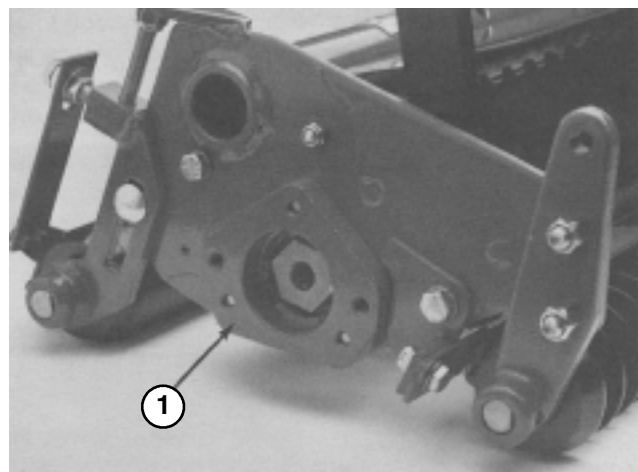

Figure 10
1. Remove the (2) capscrews, washers, and lockwashers from the end cap weight on the opposite end of the dethatcher reel from the driven end. Remove the end cap weight.
2. Remove the (2) capscrews, washers, and lockwashers from the reel motor. Remove the reel motor.
3. Remove the (3) capscrews, washers, and lockwashers from the non-driven end of the dethatcher unit. Remove the end bearing plate and carefully remove the plastic bearing debris seal. Remove the (3) capscrews, washers, and lockwashers from the driven end of the unit. Remove the end bearing plate and carefully remove the other plastic bearing debris seal (Fig. 10).